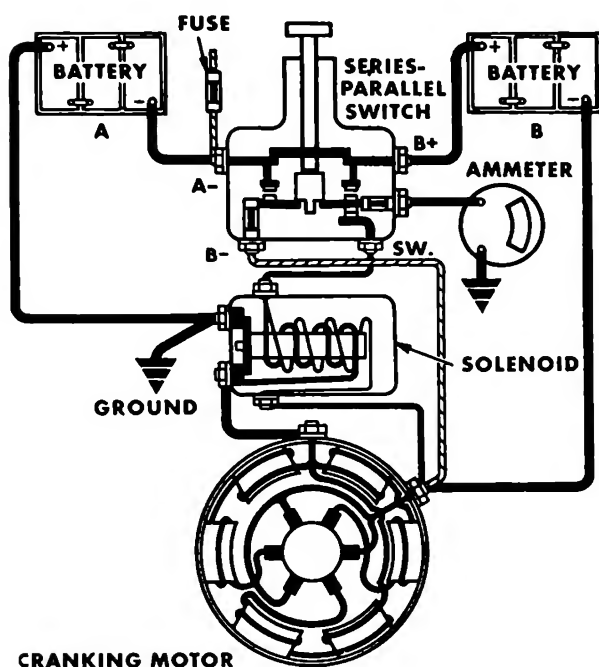

Fig. 11-3. Series-parallel switch circuit, shown in cranking position, with the series connections
4. Diesel engines and similar applications require a comparatively high voltage to insure adequate cranking performance. The series-parallel system is designed to provide a means of connecting two batteries in series to provide increased voltage for cranking, and reconnecting the two batteries in parallel for normal operation of the equipment after starting of the engine has been accomplished. See Fig. 11-3.